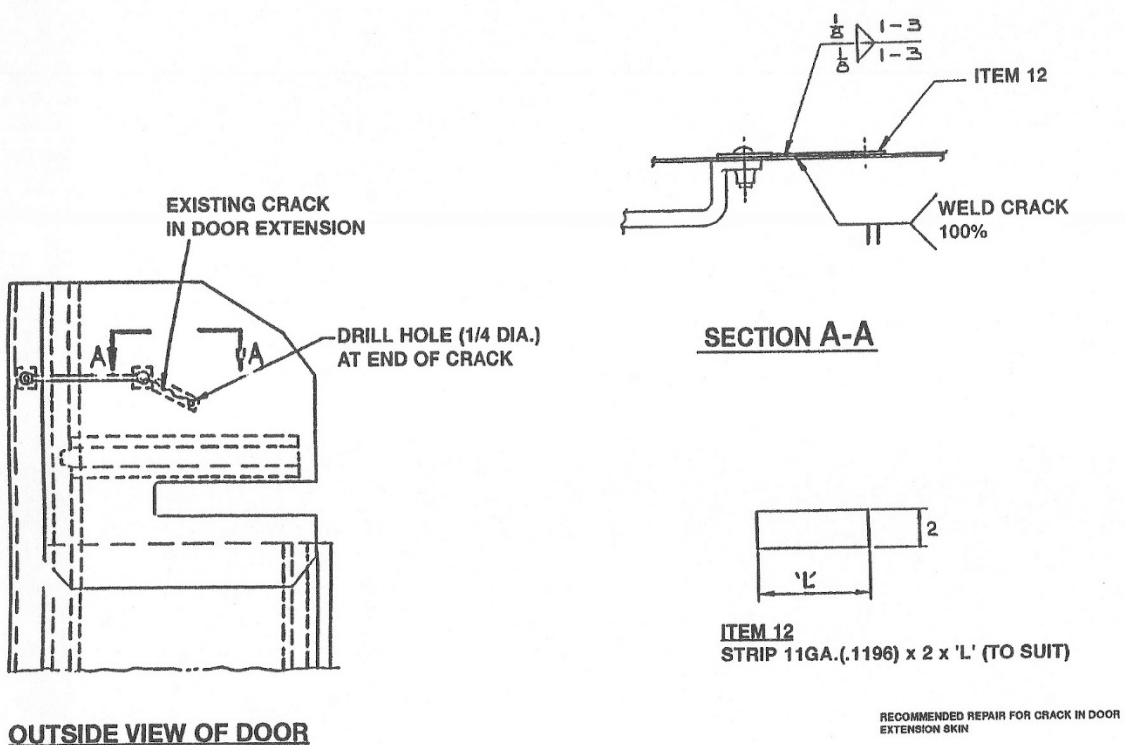

Figure 16
3. On the inside of the door apply a patch plate (Figure 16, Item 12), made of 11-gauge mild steel, over each crack. This patch **must** extend at least 1" on each side of the crack. (Refer to Figure 16, Section A-A).